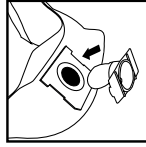

FIGURE 21
31. Position the inlet deflector with the opening facing the left or the right side of the filter bag. Slide the filter bag collar over the inlet deflector, matching the notches of the bag collar to the tabs on the inlet deflector. Bag will only fit properly one way. **FIGURE 21.**